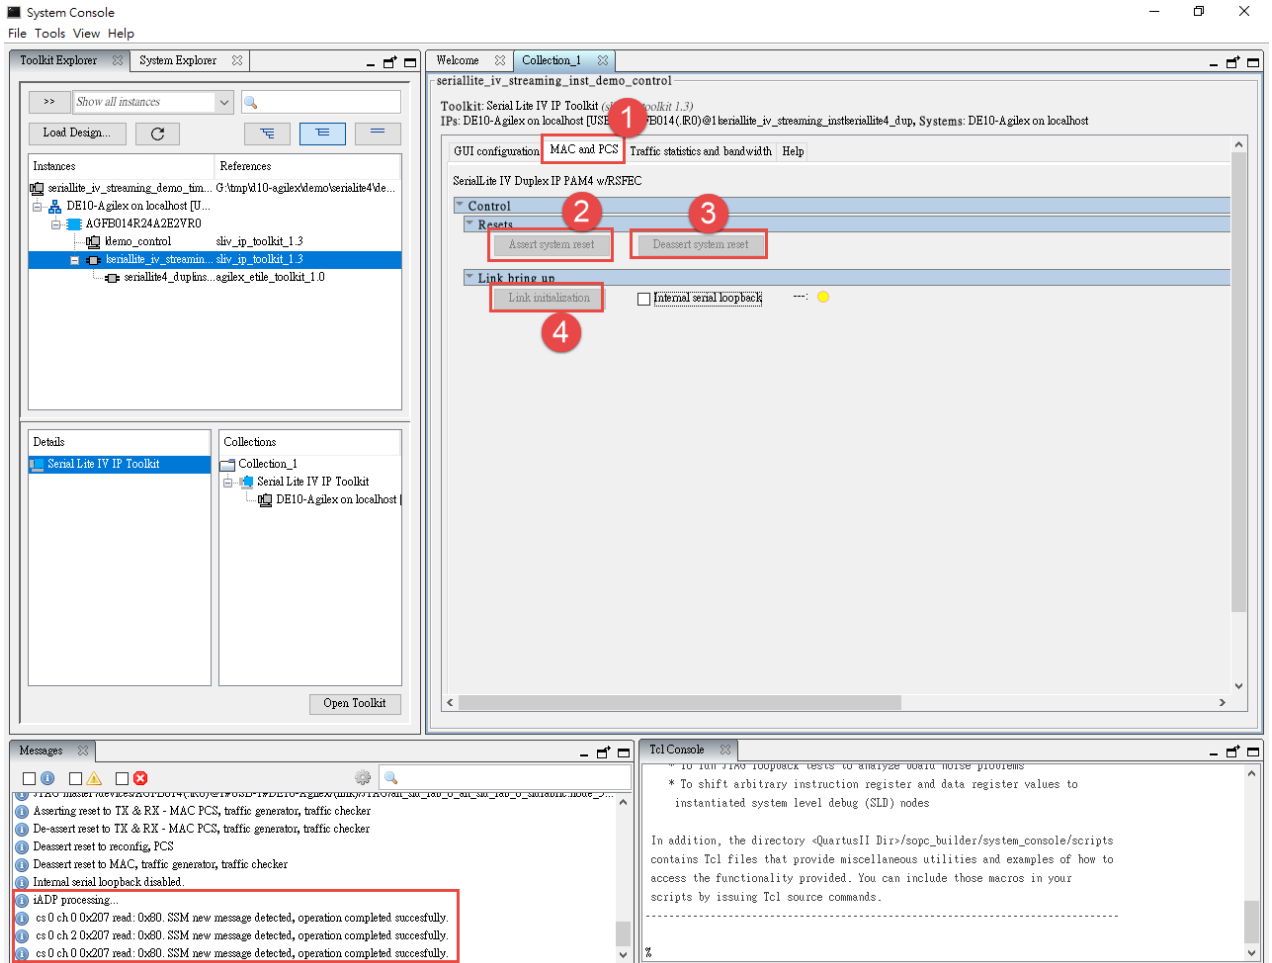

Figure 9-21 Setup MAC and PCS tab
- Please refer to the **Figure 9-21**, choose **MAC and PCS** tab and follow steps 1~4 to implements various CSR for both the hardened custom PCS core and the MAC soft logic.